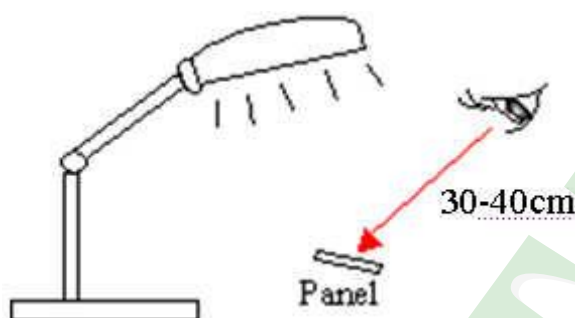

Fig. 1
- (1) Ambient temperature : 25 ± 5 °C
- (2) Humidity : 25~75 % RH
- (3) Panel visual inspection on the operation condition for cosmetic shall be conducted at the distance 30~40cm or more between the LCD module and eyes of inspector.
- (4) The viewing angle :
(5) Display panel shall be conducted at the distance 30~40cm between the LCD module and eyes of inspector (Fig. 1)